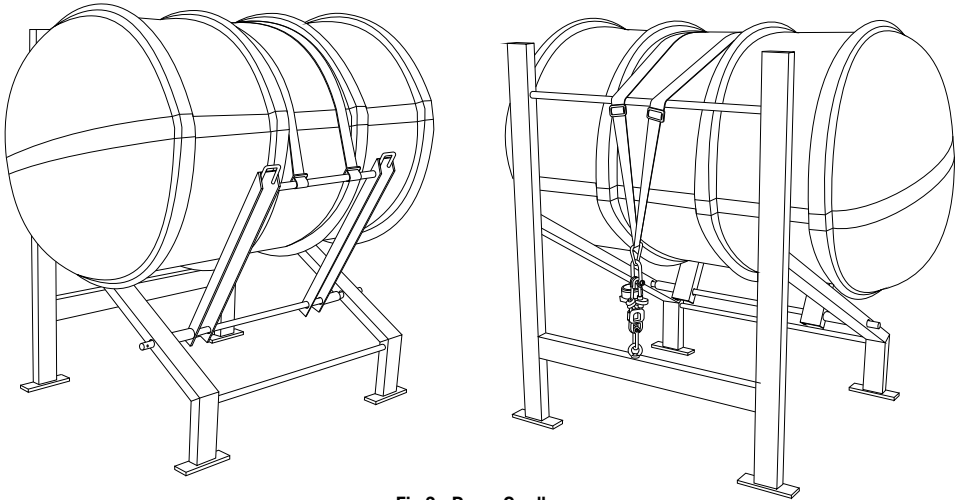

Fig 3 - Ramp Cradle
1. If the liferaft is mounted to a ramp cradle, release the Quick Release/Slip Hook (see Fig 3).